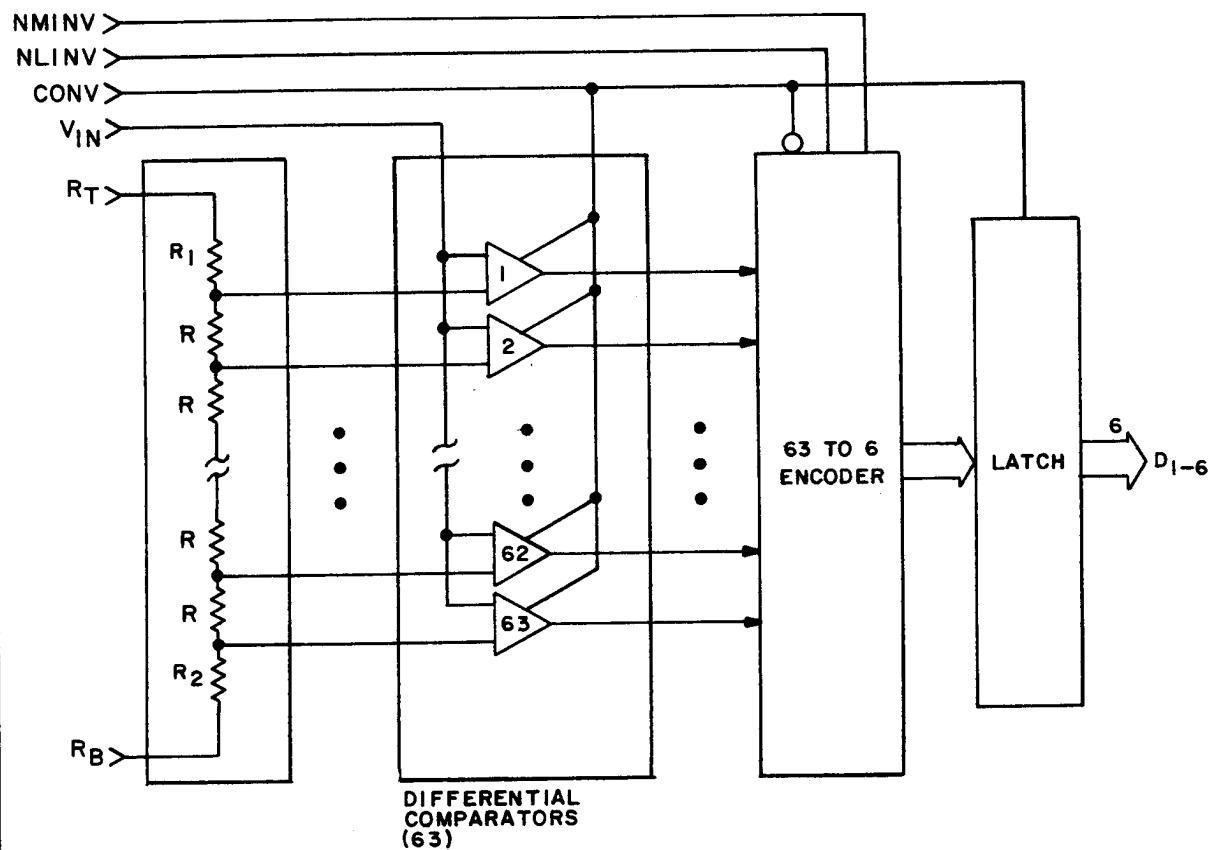

FIGURE 2. Block diagram.
2. Voltages are code midpoints when calibrated by adjusting V_{RT} and V_{RB} to set the 1st and 63rd thresholds to the desired voltages. Note that R_1 is greater than R (refer to block diagram on figure 2 herein), ensuring calibration with a positive voltage on R_T . Assuming a 0 V to -1.0 V desired range, continuously strobe the converter with -0.0079 V (1/2 LSB from 0 V) on the analog input, and adjust V_{RT} for output toggling between 00 and 01. Then apply -0.9921 V (1/2 LSB from -1.0 V) and adjust V_{RB} for toggling between codes 62 and 63. The degree of required adjustment is indicated by the offset error, E_{OT} and E_{OB} . Offset errors are generated by the inherent parasitic resistance between the package pin and the actual resistor chain on the integrated circuit. These parasitic resistors are shown as R_1 and R_2 in the block diagram shown on figure 2. Calibration will cancel all offset voltages, eliminating offset and gain errors. This method of calibration requires that both ends of the resistor chain, R_T and R_B are driven by buffered operational amplifiers. Instead of adjusting V_{RT} , R_T can be connected to analog ground and the 0 V end of the range calibrated with a buffer offset control. The offset error at the bottom of the resistor chain results in a slight gain error, which can be compensated for by varying the voltage applied to R_B . The bottom reference is a convenient point for gain adjust that is not in the analog signal path.